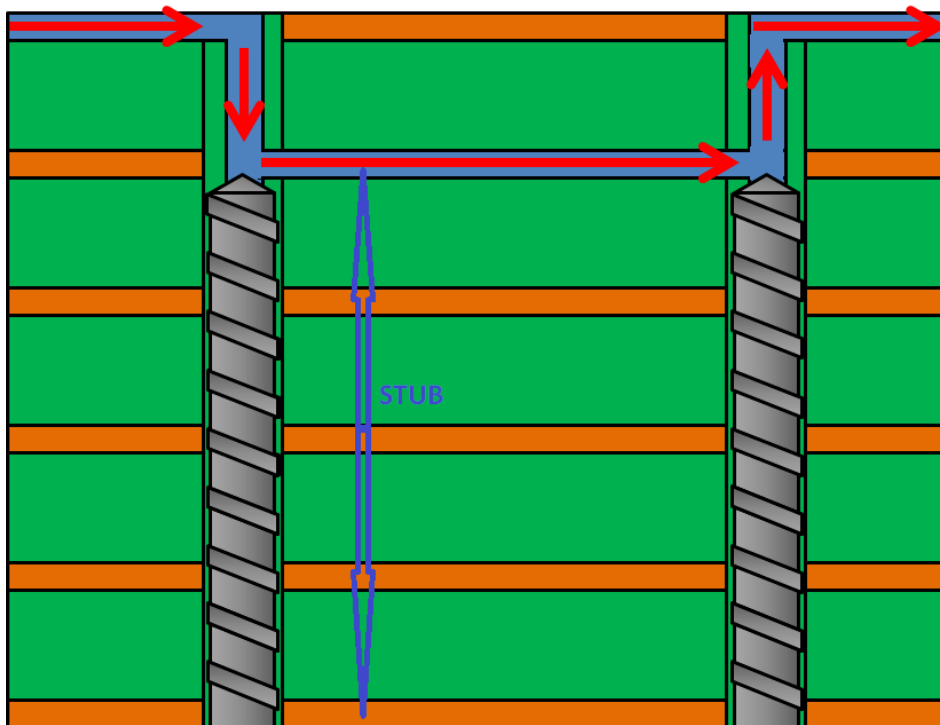

Figure 2-4. Long Vias With Back-Drilled Stubs
- Longer via stubs resonate at lower frequencies and increase insertion loss, keep these stubs as short as possible. TI recommends keeping via stubs to less than 15 mils. Longer stubs must be *back-drilled* (see Figure 2-4).